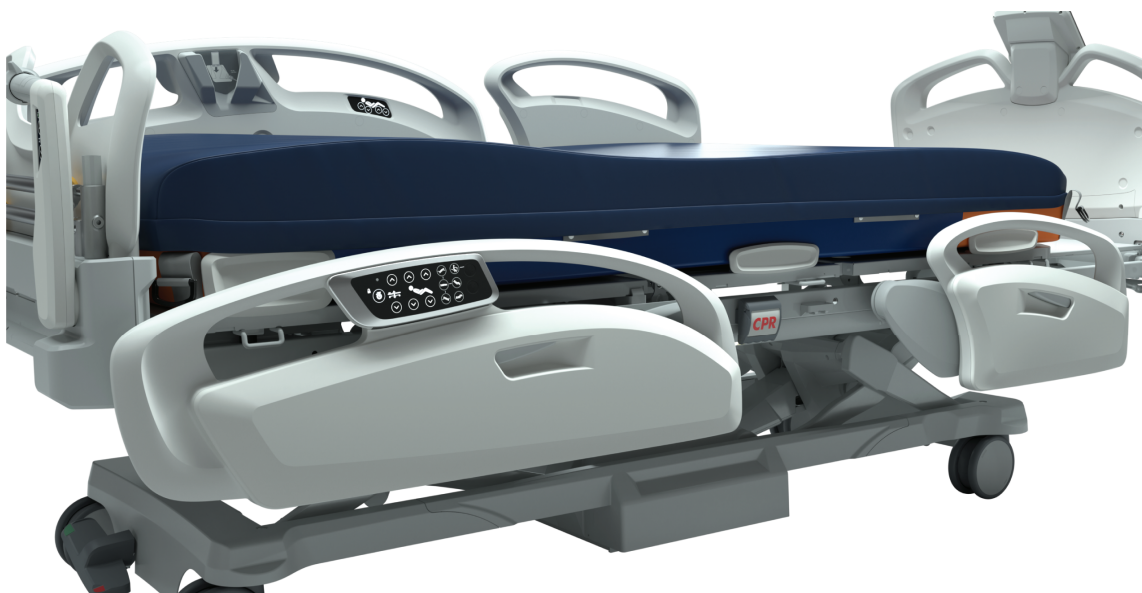

Figure 19 – Siderail lowest position
- To lower the siderail to its lowest position, press and hold the siderail release and rotate the siderail to the lowest position (Figure 19).